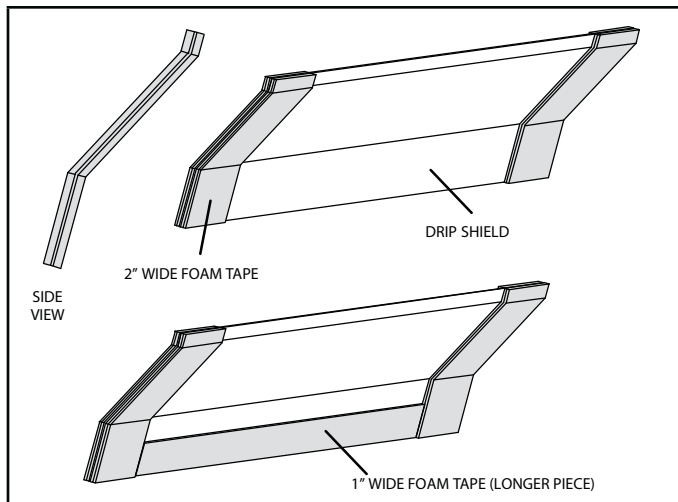

FIGURE 12. Applying Foam Tape to Drip Shield
- 4 - Foam tape that is provided creates a seal between the drip shield and the coil so that water does not leak into the air stream. The foam tape pieces are precut. Apply the tape to the drip shields as illustrated in figure 12 and specified as follows: